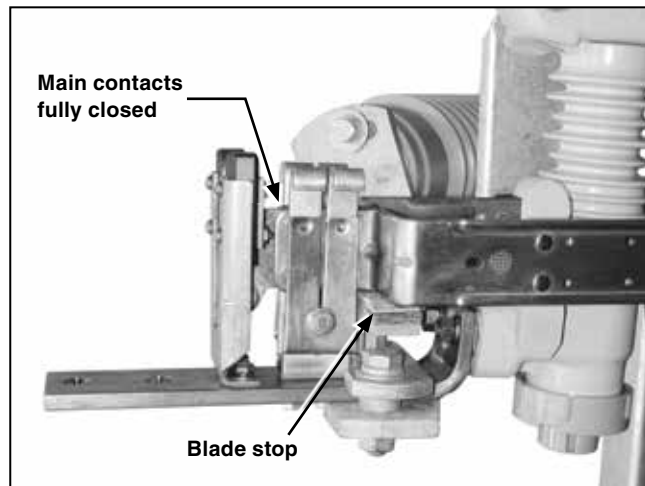

Figure 31. Checking that the blade is fully closed.
- (a) With the operating handle as far as it will go in the closing direction, all main contacts of the interrupter switch are in the fully **Closed** position. See Figure 31.